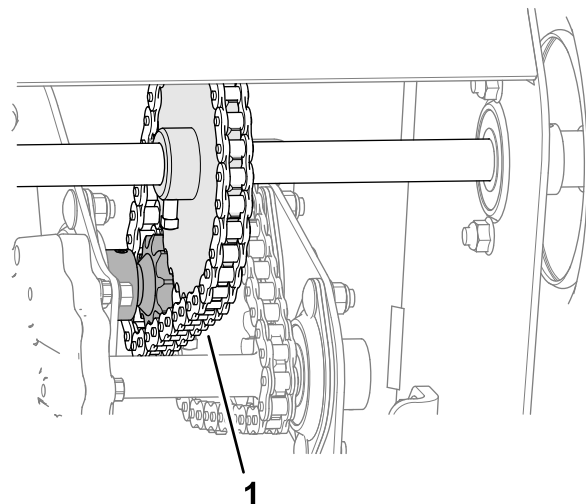

**Figure 66**
- 3. Assemble the drive chains onto the front tine-drive sprockets and idler sprockets (Figure 66), and secure the chains with the connecting links.